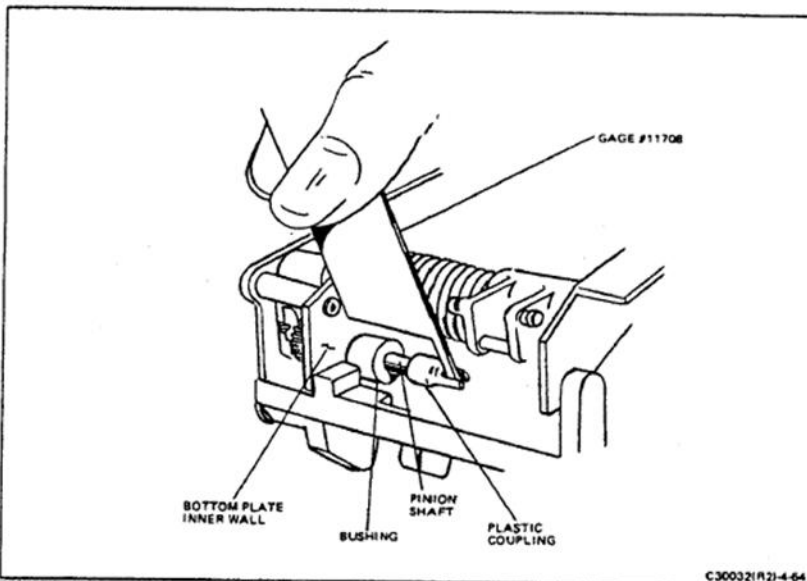

FIGURE 4-64 ORIENTING THE PLASTIC COUPLING WITH SPECIAL TOOL #11708
10. Using Special Gage #11708 (see Figure 4-64), insert the small tip of the gage into the slot of the coupling. The opposite end of the gage should meet the inner wall of the bottom plate. If the gage will not fit as described, first try to push the bushing on a little farther. If this cannot be accomplished, remove and examine the inside of the coupling for damage and replace the coupling if necessary.